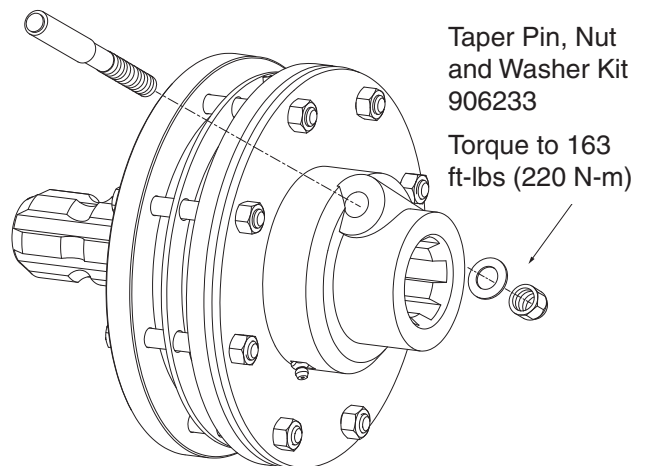

Figure 4 - Driveline Clutch Taper Pin Torque
- The shaft and tube of the telescopic shaft should be well-lubricated so that the PTO shaft can telescope freely (see Figure 4).
Lubricate the driveline every 50 hours as shown in Figure 4. The driveline shield may need to be rotated to line up the openings in the shielding with the lubrication fittings.